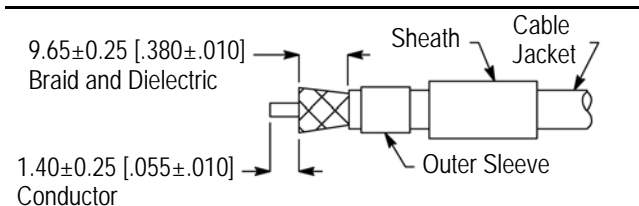

Figure 2
- Slide the jack sheath, then the outer sleeve onto the cable. Strip the cable to the dimensions shown in Figure 2. Take care not to nick the dielectric. Flare the cable braid.